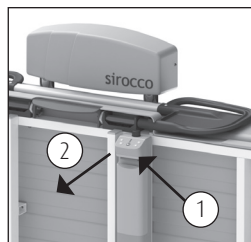

Figure 9 Battery.
- The battery is located at the head-end of the stretcher (See figure 9).
- In order to remove the battery, use one hand to unlock the catch (1) on the battery, then slide the battery forward (See figure 9).